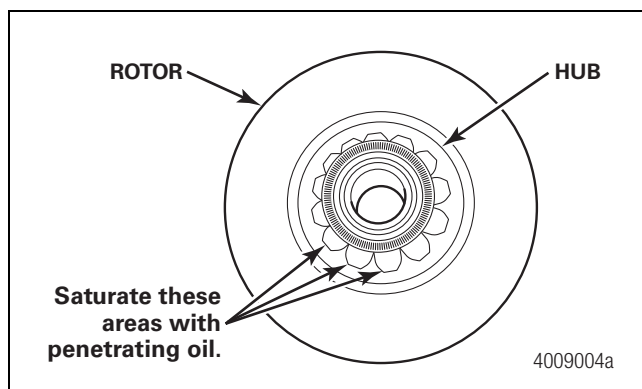

Figure 4.11
10. Apply and saturate the inner portion of the hub barrel with penetrating oil. AeroKroil is preferred. Let the oil soak for at least 30 minutes. Figure 4.11.